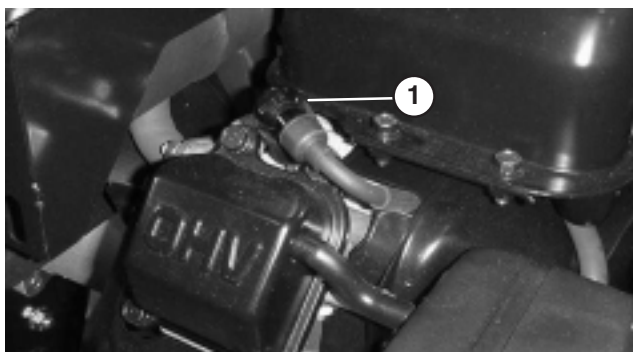

Figure 32
1. Pull wire off spark plug (Fig. 32).